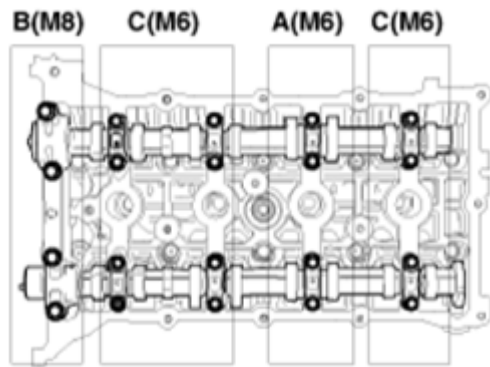

Fig. 17: Camshaft Bearing Caps Tightening Sequence
3. Install camshaft bearing caps (A) in their proper locations. Tightening order: Group A, then Group B, then Group C. Refer to **Fig. 17**